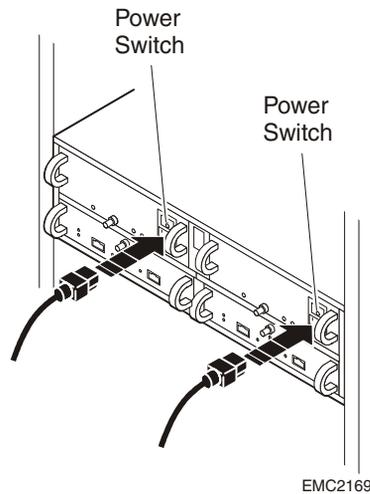

Figure 2-2 Plugging in the ac Line Cord
2. Plug an ac line cord from the cabinet's power distribution unit into each power/cooling module, as shown in Figure 2-2.